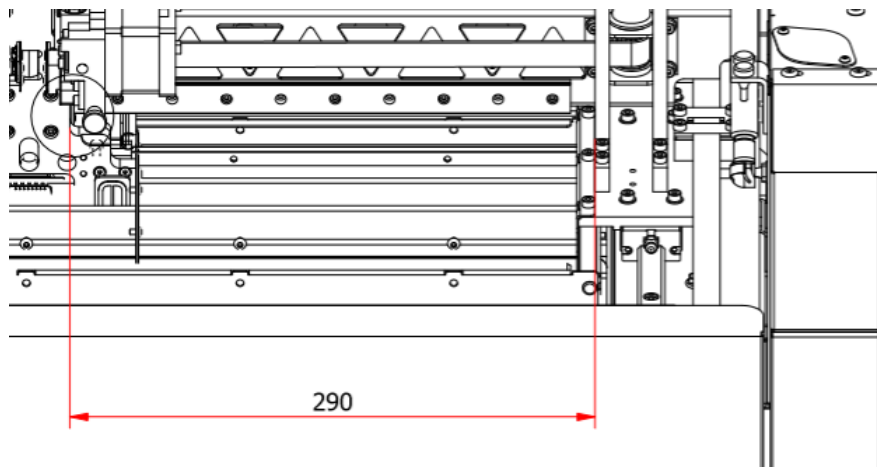
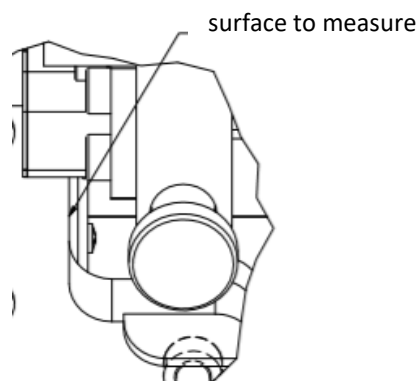
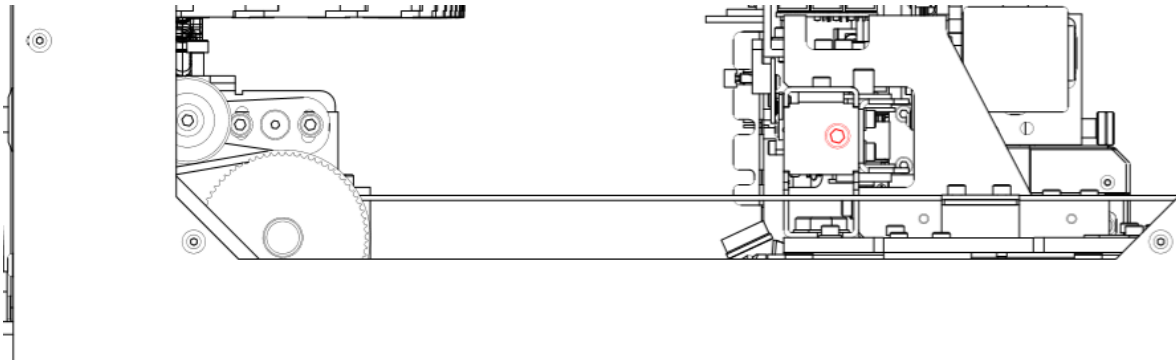

Fig. 98 Module carriage position ready for tensioning
Fig. 99 Detail showing base surface for measuring position
Fig. 101 Tensioner X adjustment screw
- b) Move the module carriage to the position described in Fig. 98. Fig. 99 shows the module carriage surface to be used for positioning the carriage on the machine.
- e) Adjust the belt tension by tightening (to increase belt tension) or loosening (to decrease belt tension) the tensioner adjusting screw (Fig. 101). Use a size 5 HEX screwdriver for the adjustment. The adjustment values are shown in Table 4. They vary depending on whether you adjust a new or used drive belt. Belt tension should be measured with a belt tension meter using the oscillation frequency. The measurement should be made in the middle of the belt section to the right of the module carriage in the position shown in Fig. 98.